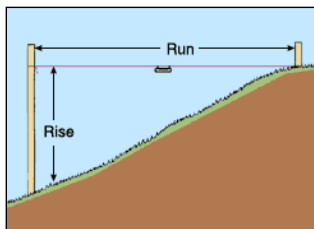

Figure 1.
- You will need to calculate the slope of your path (figure 1) using the following equation: